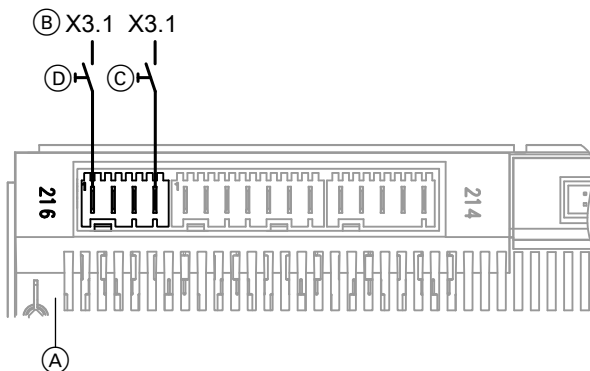

Fig. 43
- To the heat pump control unit as shown in Fig. 43